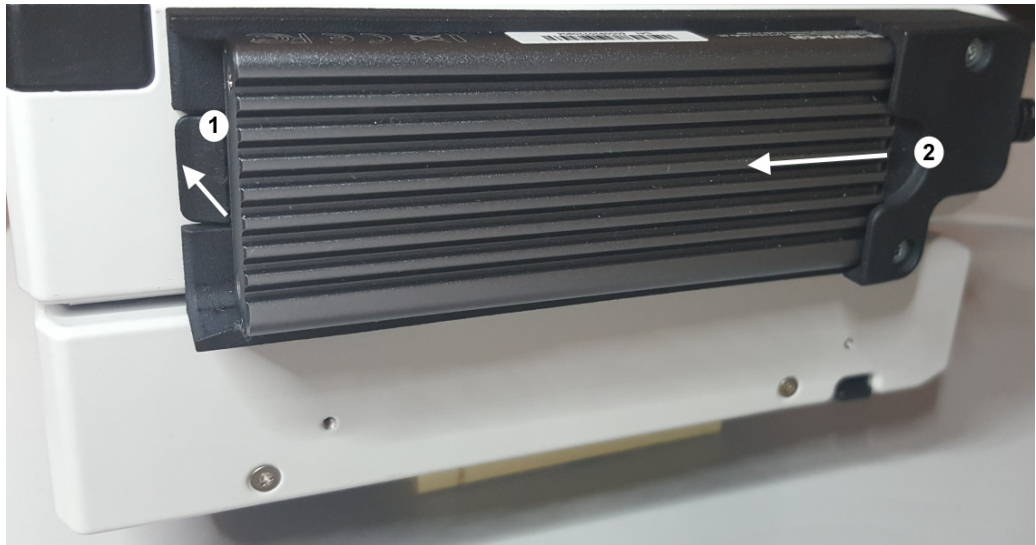

Figure 3-3: Remove SSD enclosure
1. Push the tab (1) backwards.
3. Remove the SSD enclosure from the mount in the direction of the arrow see Figure 3-3.